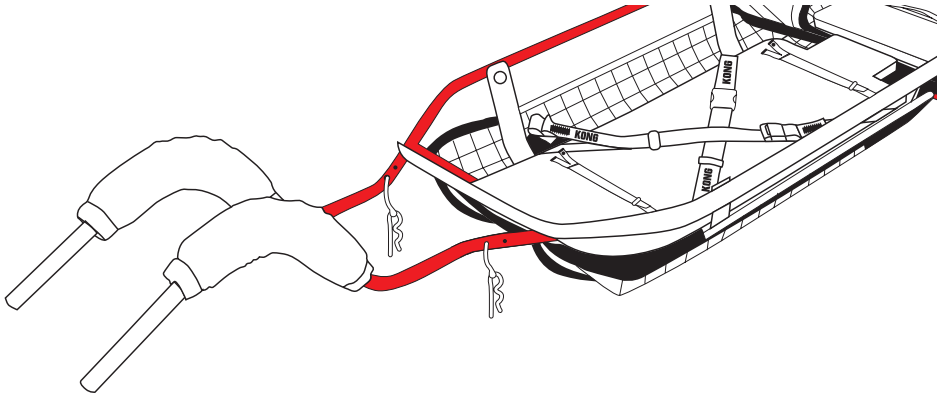

Fig.15
- a) Connect the handles to the frame of the stretcher (fig.15), making sure to observe the coupling numbering,